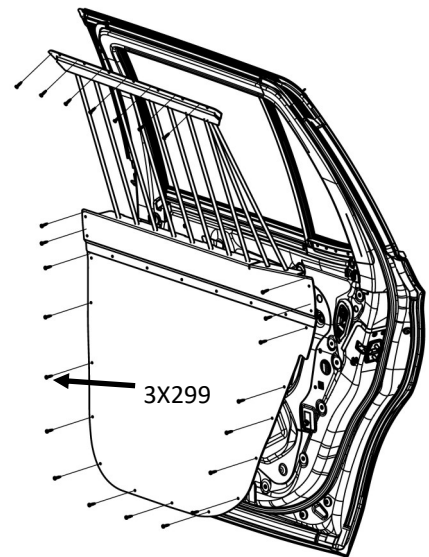

Figure 15
2. Raise the window armor and door panel assembly above the vehicle door and insert the lower frame flanges into the window track. (Fig. 15)
6. Once fitted satisfactorily, drive (7) self drilling screws [3X299] into the upper door. (Fig. 15)
7. Drive (4) more screws through the lower bracket into the door.
8. Drive remaining (13) screws [3X299] into the door panel and door. If necessary, drill a 7/64" pilot hole.